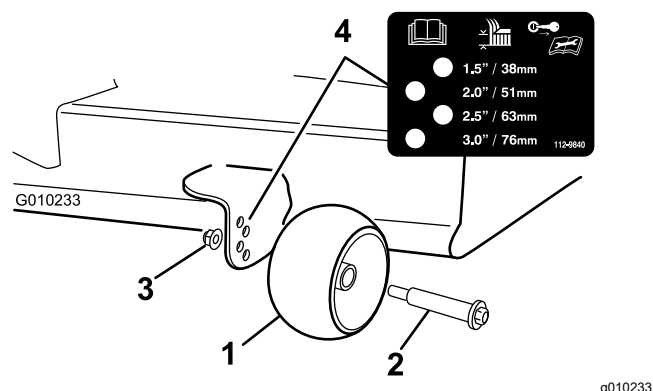

Figure 24
3. Adjust the anti-scalp rollers as shown in Figure 24.